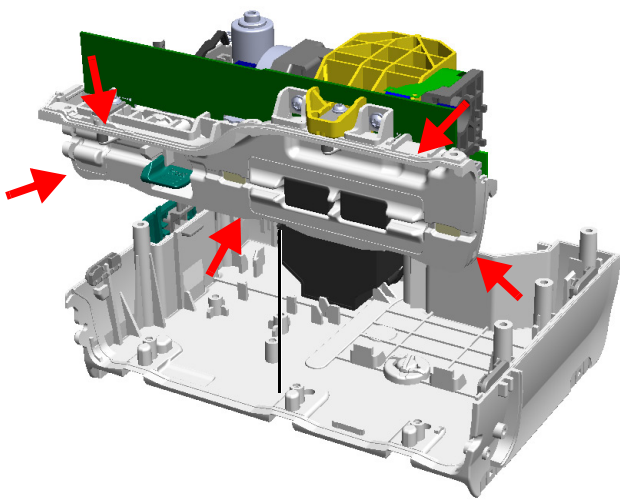

Fig. 3 - 40
12. Before inserting the housing front, apply high-vacuum grease to the groove all around (see Fig. 3 - 40).